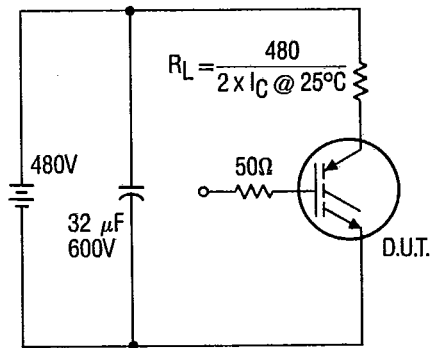

Fig. 5b — Pulsed Collector Current Test Circuit
① Repetitive Rating; Pulse width limited by maximum junction temperature (see figure 5b)